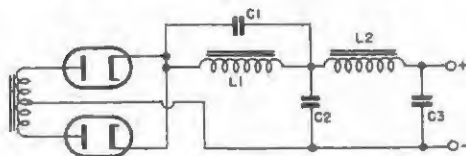

FIG 2
There is, however, a simple circuit which does the job even more effectively and with none of the above disadvantages. It consists of tuning the input choke to form a parallel-resonant, high-impedance filter at the fundamental ripple frequency (Fig. 2).
3. C1 and L1 in Fig. 2 form the resonant circuit. The size of C1 can be taken from the resonance table given above for the appropriate size of choke, but this should be considered only as a starting point, since the exact inductance of the choke will probably not coincide with the value marked on the nameplate. The capacity should then be varied in 10 per cent increments in both directions until the correct value is found.